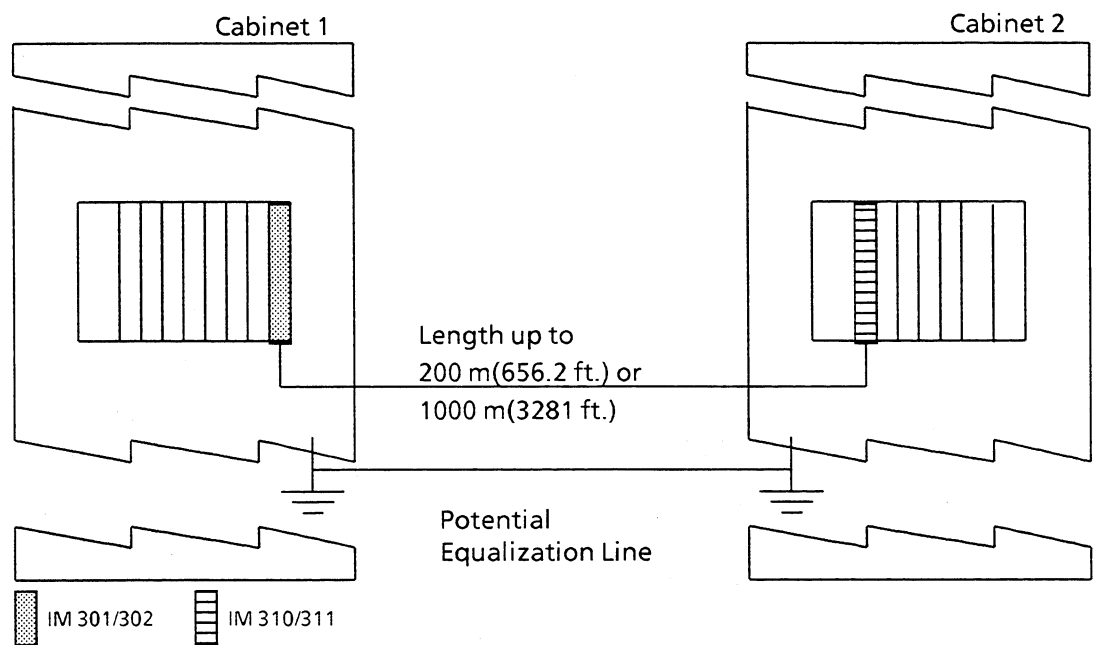

Figure 7-1. Potential Equalization for Distributed Installation
- A separate location (up to 200 m, = 656.2 ft.) of central controllers and expansion units when connected by the IM 301/IM 310 interface modules (see Figure 7-1). The IM 301/IM 310 interface modules are nonfloating. Potential differences up to 7 V are permissible.
- A separate location (up to 1000 m, = 3281 ft.) of central controllers and expansion units with serial connection using the IM 302/IM 311 interface modules (see Figure 7-1). The IM 302/IM 311 interface modules are floating.